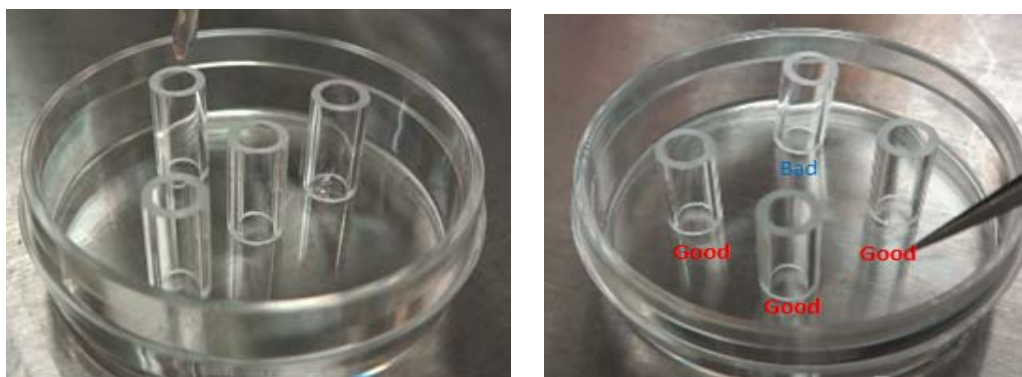

Figure2. Cloning ring placed in a petri dish (left). Shake it and select only cloning rings that do NOT move (right).
2. Place the cloning rings in a petri dish (Figure 2, Left).
3. Shake the petri dish. Select only cloning rings that do NOT move (Figure 2, Right).